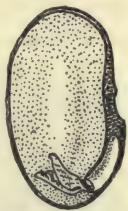

FIG. 304. — A bean with one cotyledon removed.
**Food for the seedling.** — Food is necessary to start the seed in its growth, and the food which the embryo plant needs to start its growth is stored in the seed. In the bean the thick swollen cotyledons, or halves of the seed, contain food (Fig. 304), which supplies the seedling until it is ready to forage for itself. The food